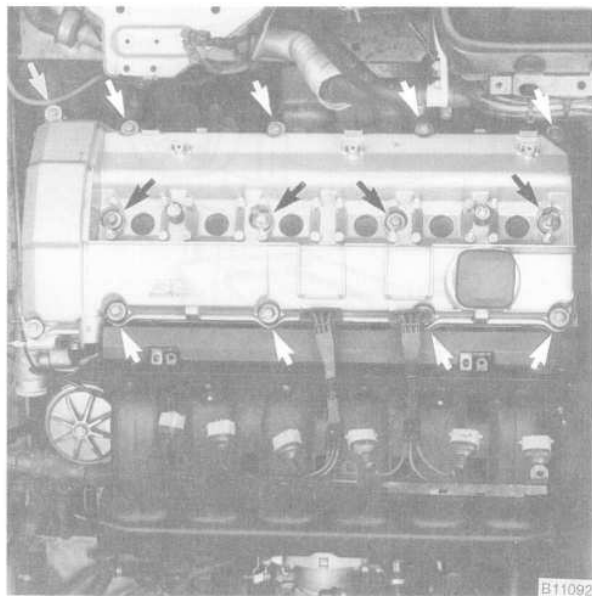

Fig. 10. Cylinder head cover mounting bolts (arrows).
5. Remove the cylinder head cover mounting bolts and remove the cylinder head cover. See Fig. 10.